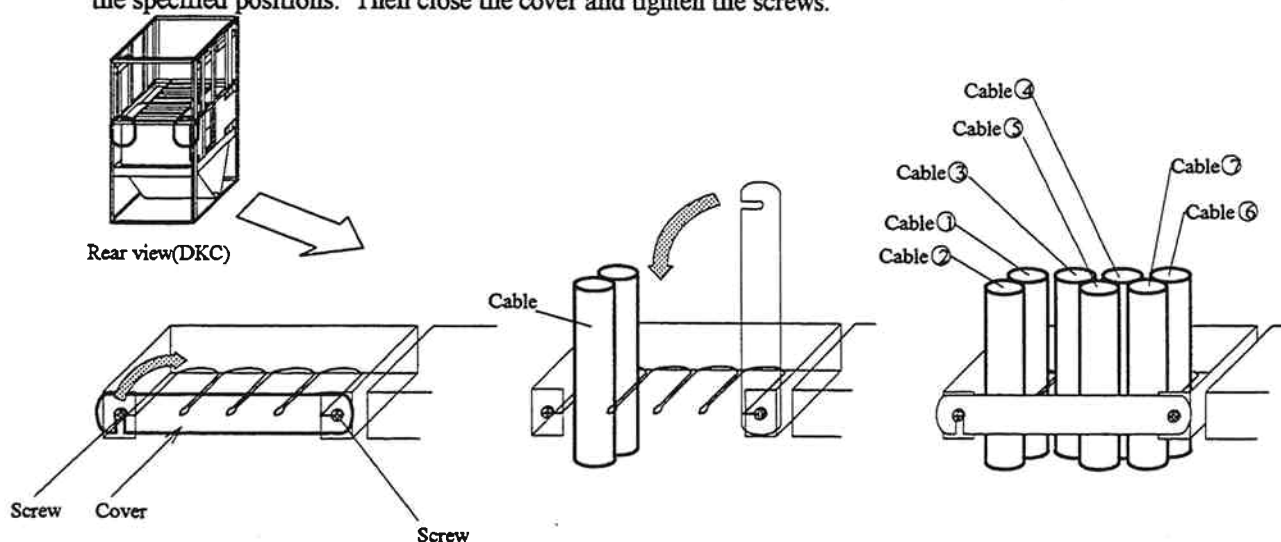

Fig. 3.3.7.7.2-41 Attachment of the Cables
g. Loosen the two screws to open the cover. See Table 3.3.7.7.2-7 and Fig. 3.3.7.7.2-41 to insert cables ① to ⑦ into the specified positions. Then close the cover and tighten the screws.